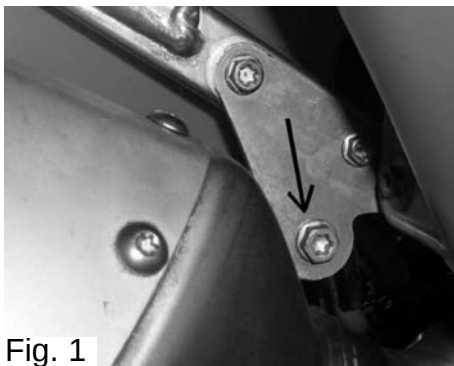

Fig. 1
6. Remove the bolt attaching the footwell strut to the subframe bracket. Flex the strut in to allow for pipe removal and installation. The bolt is located near the muffler inlet (fig.1).
7. Remove the two (2) header flange springs at the exhaust port and the bolt attaching the header to the frame; keep for later use.